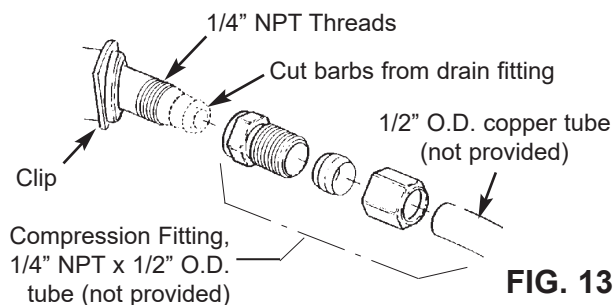

FIG. 13
**NOTE:** If codes require a rigid drain line see Figure 13.